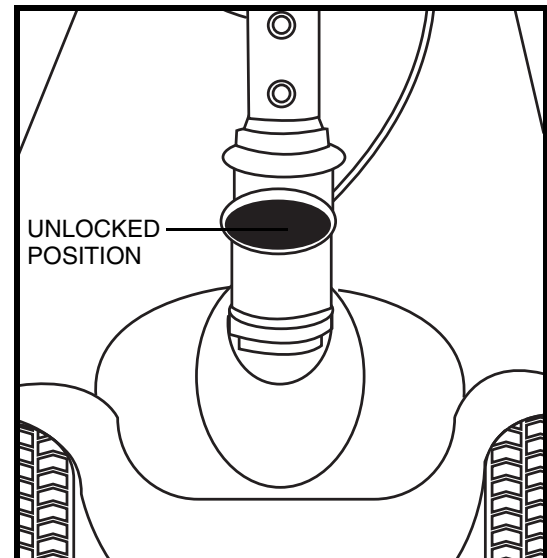

Figure 18. Tiller Lock Knob (Unlocked)
6. Unlock the front wheel by turning the tiller lock knob 90° anticlockwise. **See figure 18.**